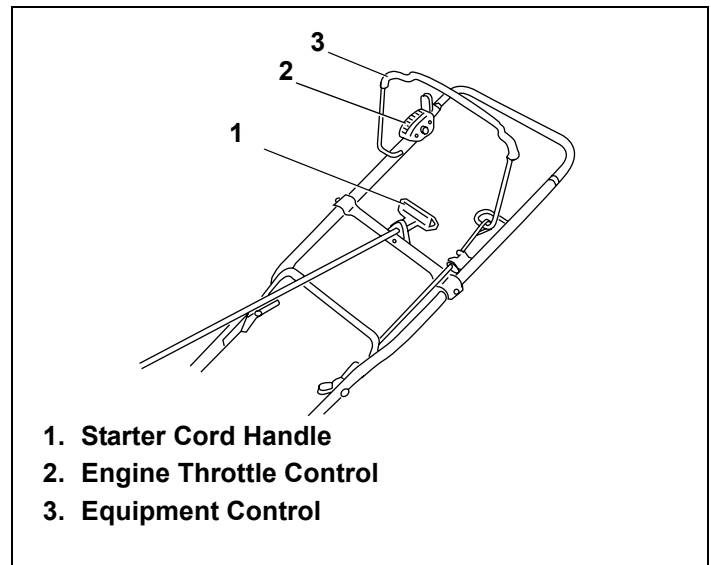

Figure 25. Typical Engine Controls
2. Move engine throttle control to "CHOKE" or "START" position, if present (see equipment manufacturer's instructions). See Figures 25, 26 and 27.
4. Operate equipment control to release engine brake or clutch, if present (see equipment manufacturer's instructions). See Figure 25.
5. Grasp starter cord handle. See Figure 25.
- a. Move engine throttle control back to "CHOKE" position. See Figures 25, 26 and 27.
- b. Next, move engine throttle control to "FAST" position. See Figures 25, 26 and 27.
8. If engine fails to start after 3 attempts in the "FAST" position, move engine throttle control to "CHOKE" position and start engine. See Figures 25, 26 and 27.